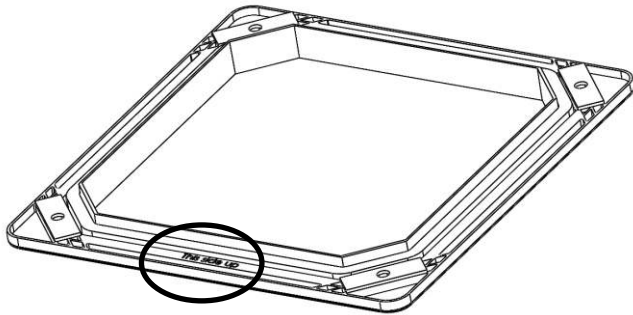

Figure 3 - Top side of weather collar showing THIS SIDE UP also has 4 grey foam strips around each bolt hole
- The collar has one side marked "THIS SIDE UP". This **top side** will point to the sky. Figure 3